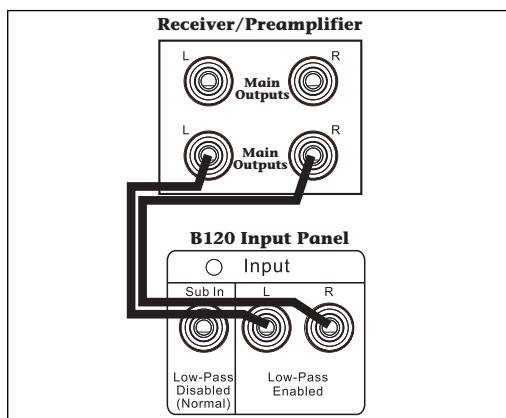

Figure 10: Connection to main outputs
1. Connect an RCA patch cable between the left main output on the receiver/preamplifier to the L(ef) Low-Pass Enabled connector on the B120 rear panel, as shown in Figure 10.